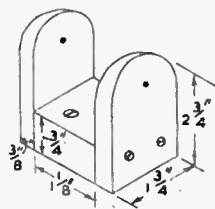
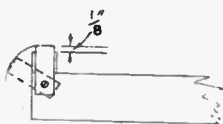

Fig. 3
Fig. 2
FROM plywood or deal board about  $\frac{1}{2}$  in. in thickness cut several pieces about 8 ins. by 10 ins. to comprise a total of 1  $\frac{1}{2}$  ins. These pieces should be glued and screwed together, and the bottom face planed flat, if deal board is used. At each end on the top glue and screw 8 in. pieces of  $\frac{1}{2}$  in. square ply or wood, as shown. From Meccano, Trix, Juneero or similar strip metal of about 3 in. width, make two 'U' shaped bars, as at (A). Screw these on at the ends of the wood block, allowing about 1 in. between the strips and the  $\frac{1}{2}$  in. square pieces of wood, so that the strips can be moved, as seen in Fig. 2. Now form a stirrup from wood (Fig. 3), and screw it securely to the centre of the top of the polisher. An ordinary broom handle is drilled through about 1 in. from the bottom, and fitted to the stirrup with a thin bolt, a nail, or length of heavy gauge wire. This